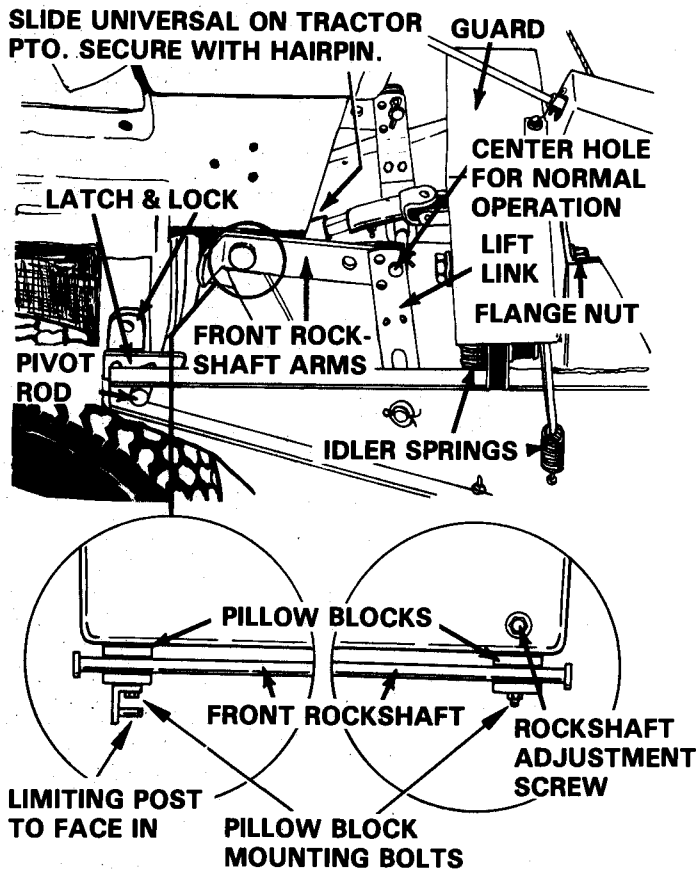

FIGURE 10
6. Front rockshaft arms should be horizontal when lift is all the way up. The front rockshaft is adjustable to adjust height of lift. Loosen pillow block mounting bolts. Turn adjustment screw in to increase lift. Retighten pillow block mounting bolts. See Figure 10.
2. Attach limiting post to right pillow block on tractor with pillow block mounting hardware. See Figure 10.